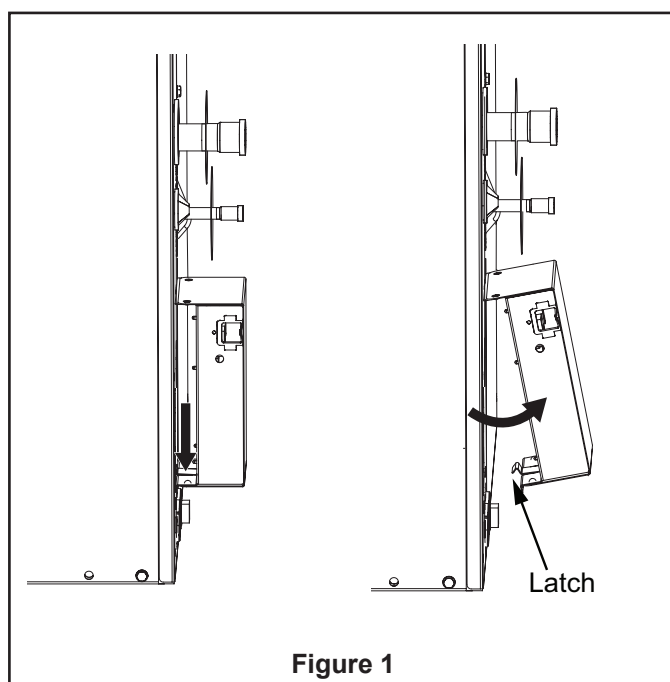

Figure 1
1. Press on the latch at the bottom of the control box, rotate the control box off the lineset panel and remove the control box from coil cabinet. See Figure 1.